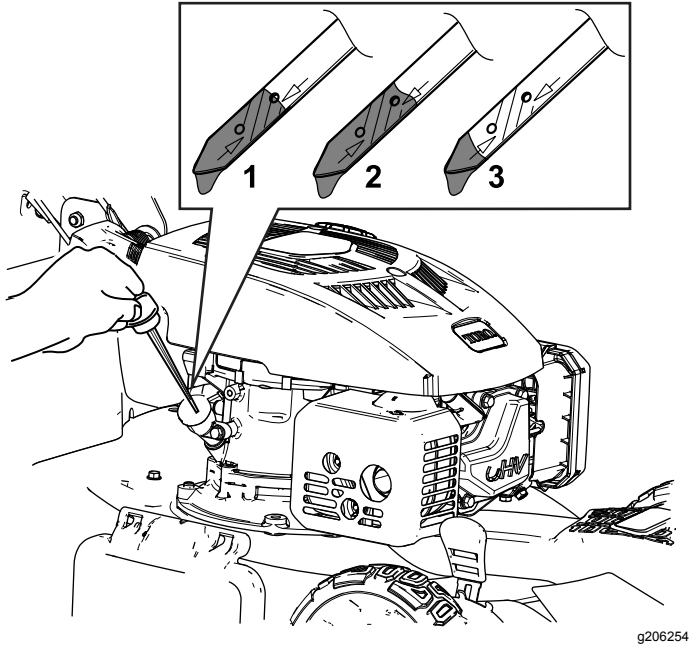

Figure 13
2. Remove the dipstick by rotating the cap counterclockwise and pulling it out (Figure 13).
5. Read the oil level on the dipstick (Figure 13).